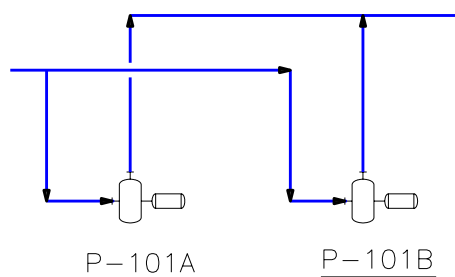

Figure 2-55 Line connecting another pump and previously created line
8. Next, connect the vertical nozzle of the other pump to the previously created line, refer to Figure 2-55. Assign the tag **8"-CS150-P-1012B** to the line.